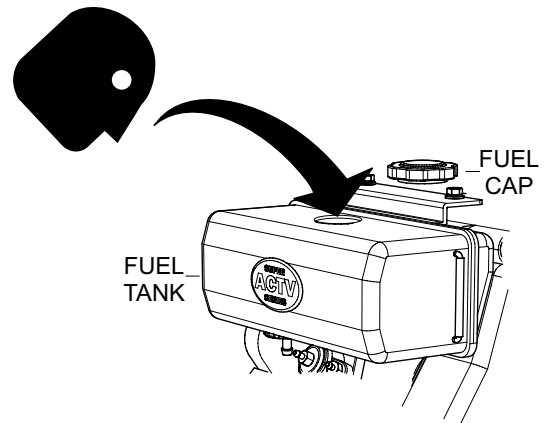

Figure 7. Fuel Check
1. Remove the fuel cap (Figure 7) located on top of fuel tank.